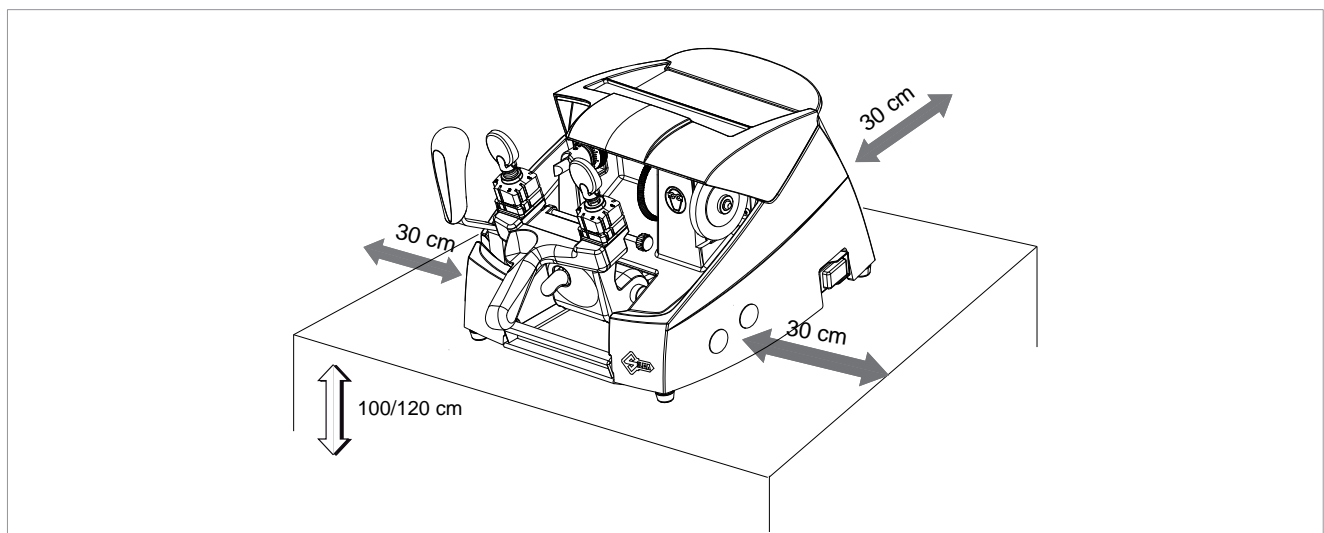

Fig. 10
- it is important to leave clearance of at least 30 cm behind the machine and on each side to ensure proper ventilation (Fig. 10).